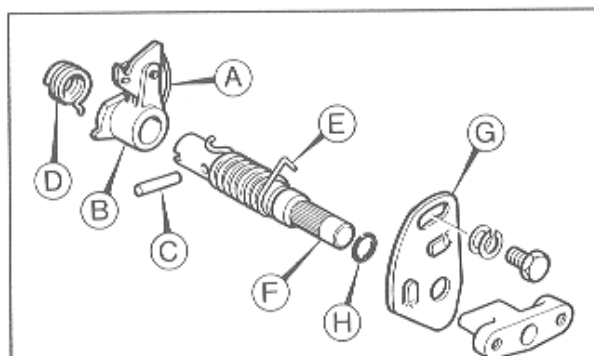

Figure 45. Engine Control Assembly
On current engines a polypropylene knob is fitted to the engine control lever. The control lever, plate (G) and spindle (F) shown in Figure 45 are only supplied as an assembly.